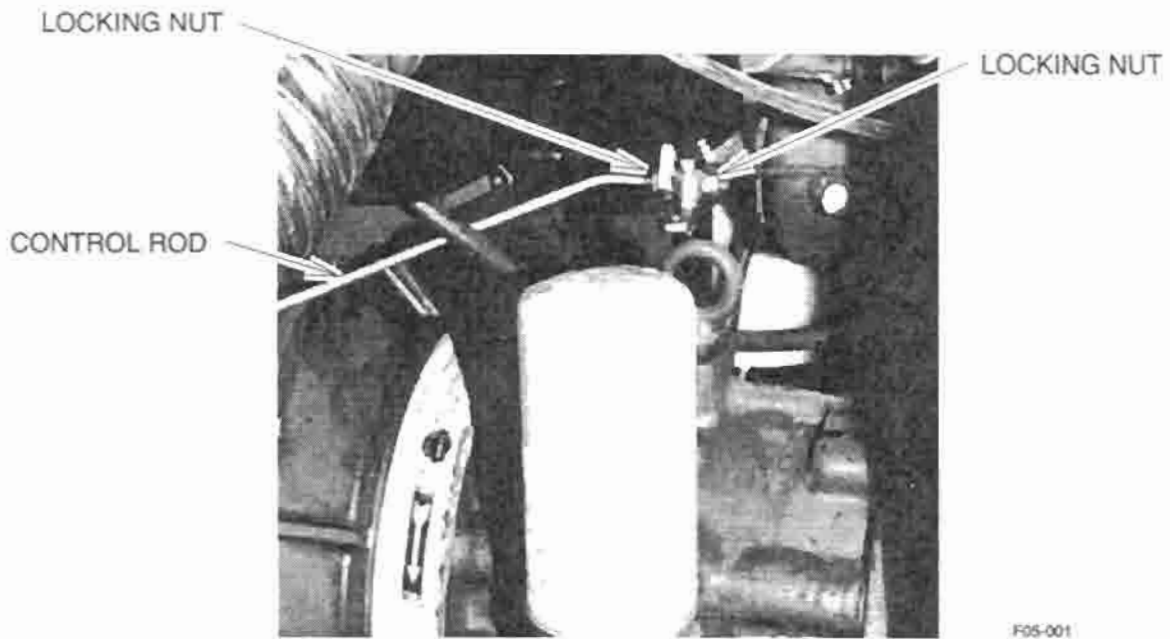

Figure 5-1. Speed control linkage adjustment
5-5. **SPEED CONTROL LINKAGE ADJUSTMENT** (See figure 5-1). If a tachometer indicates an idle speed higher than 1200 RPM with air discharge valves closed and compressor running unloaded, adjust the speed control linkage as follows.
b. Hold control rod (figure 5-1), loosen locking nuts and move control rod as required to set engine idle speed at 1100 to 1200 RPM. Observe speed on a tachometer. Tighten the locking nuts.